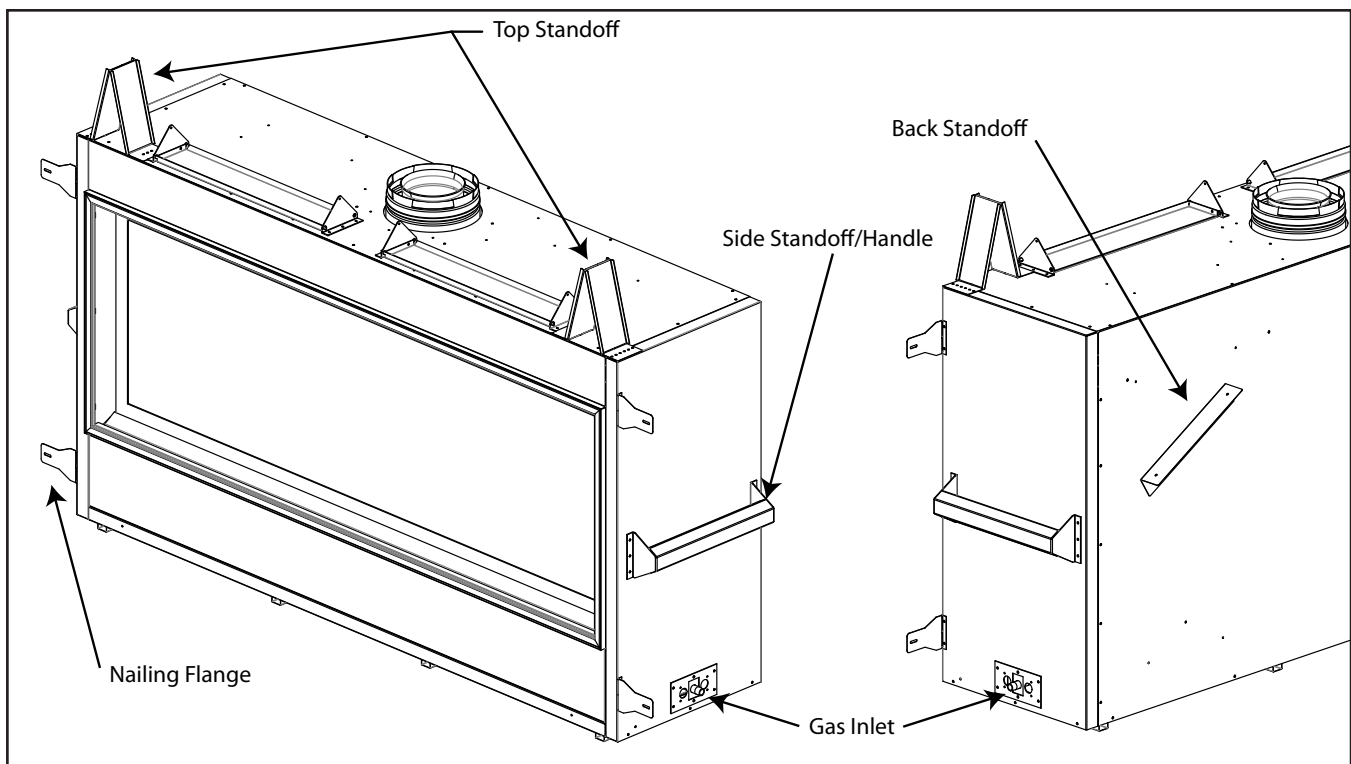

Figure 28: Fireplace Install Preperation
Take a minute to familiarize yourself with Figure 28 below.
- The top framing standoffs will need to be folded up and secured on one side with a T-20 screw, This can be seen in Figure 28.